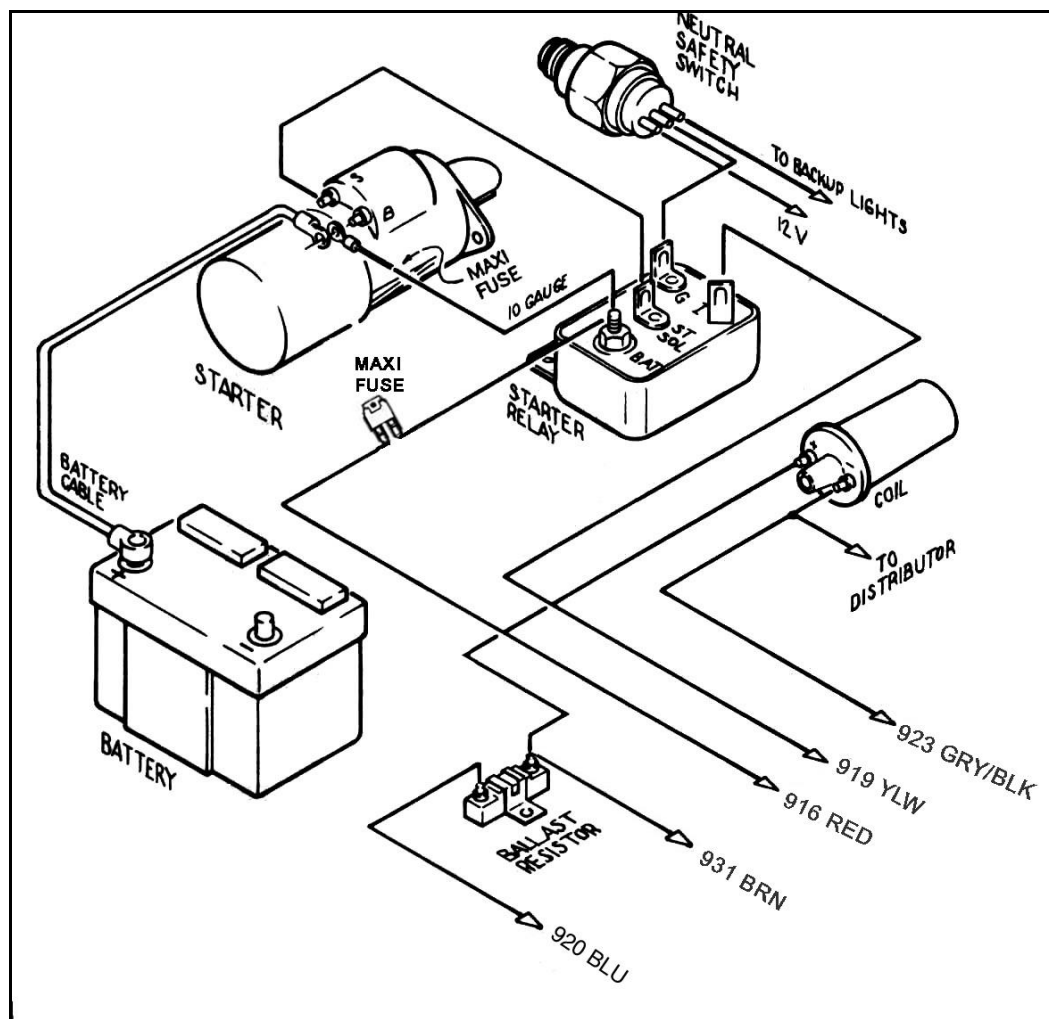

Figure 7-2A Mopar Ignition (Start/Run) System
7.2 Mopar Ignition (Start/Run) System. See Figure 7-2A
- 7.2.2** With crimping tool, attach the Maxi Fuse onto remaining length of red 10-gauge wire. It serves as a fuse to protect the entire harness. DO NOT OMIT IT! Connect this wire from the Starter Motor Battery terminal, as shown in **Figure 7-2A**. USE ONLY 10-GAUGE WIRE or LARGER.
- 7.2.4** Connect a 14-gauge wire from the Starter Relay Ground (G) terminal to the center terminal of the transmission mounted Neutral Safety Switch. Older Mopar neutral safety switches have only one terminal. On newer switches, the two outside terminals are for backup lights (see **Figure 7-2A**).
- 7.2.6** If you are using the Ballast Resistor, mount it away from other wiring or hoses. The ballast resistor gets very hot during operation. Connect ENGINE SECTION A wire #931 (BRN) to one end of the Ballast Resistor. Connect the other end of the ballast resistor to the Ignition Coil POSITIVE (+) terminal with 14-gauge wire (you may have enough BROWN wire left over to accomplish this). If you are not using a Ballast Resistor, connect wire #931 directly to the Ignition Coil B+ terminal. Wire #920 (BLU) will connect to the other side of the ballast resistor. **Figure 7-2A**